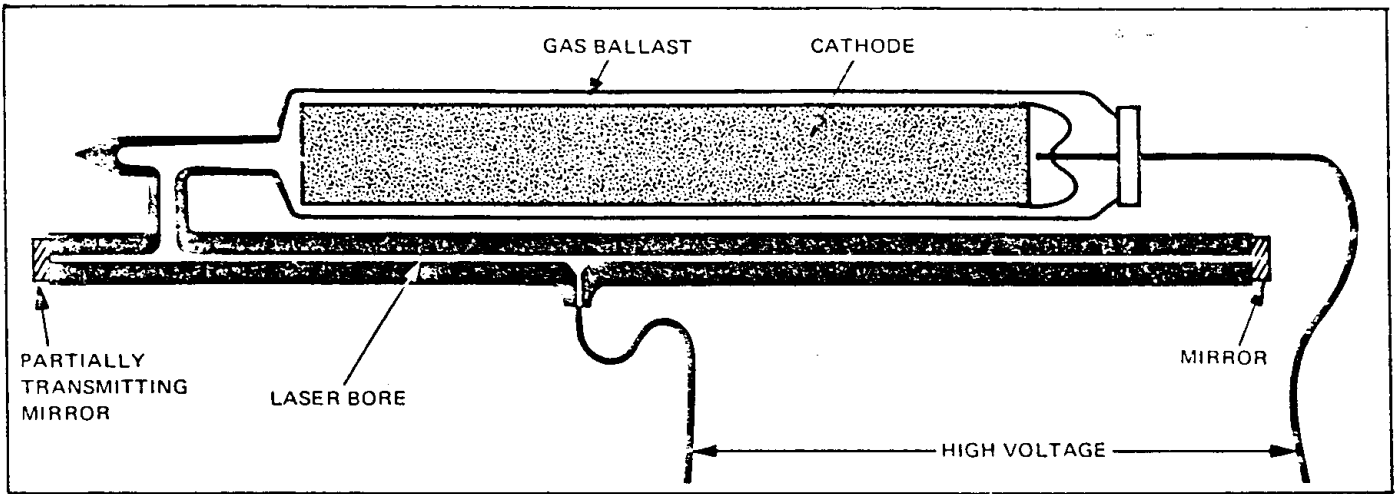

Figure 1. The 155 laser tube.
1. Plasma tube (see Figure 1)
To get the beam out of the laser tube, one of the mirrors is partially transmitting; while it reflects most of the light back, it lets a small portion through. This is the beam you see (Figure 1).